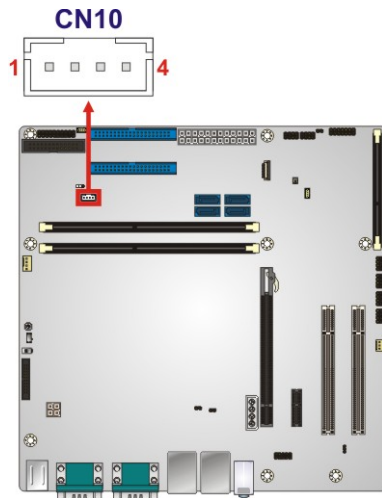

Figure 3-20: RS-422/485 Connector Location
- CN Location:** See **Figure 3-20**